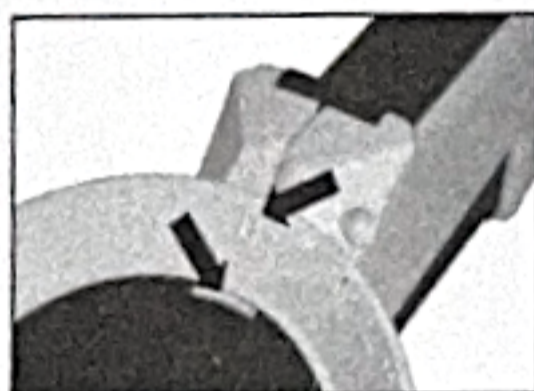

Figure 4
1. Rotate the circular braille disc to select the braille letter or number until it sits in the opening of the labeling guide (figure 4). Use letters and numbers imprinted on the lower disc to identify corresponding braille signs.
1. Rotate the circular braille disc until the rectangle shape sits in the opening of the labeling guide (figure 4)